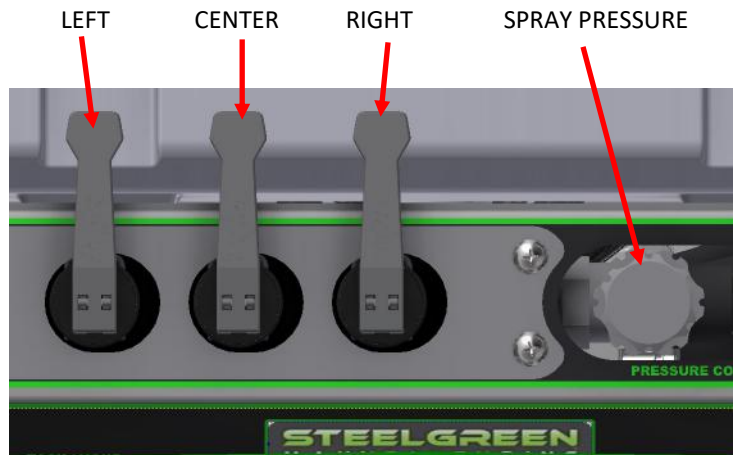

Fig. 2
- The main controls are the same: Left, center, right valves (Fig 2).